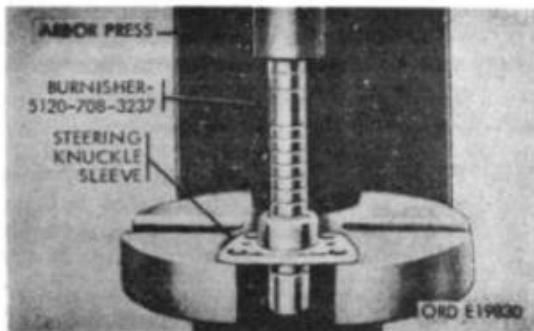

Figure 94. Burnishing steering knuckle sleeve
b. Burnish bearing sleeve as shown in figure 94, using burnisher 5120-708-3237.